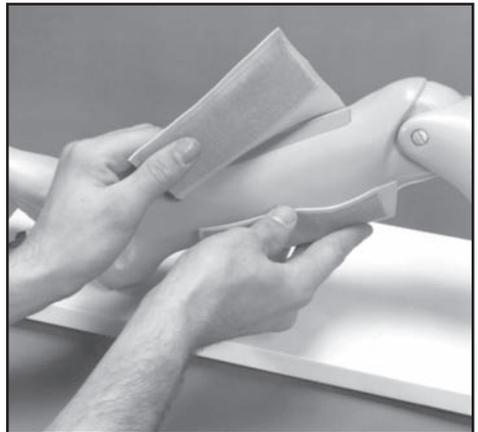

Figure 3
3. Wrap the leg skin over the lower leg and fasten it on the back side (Figure 3).